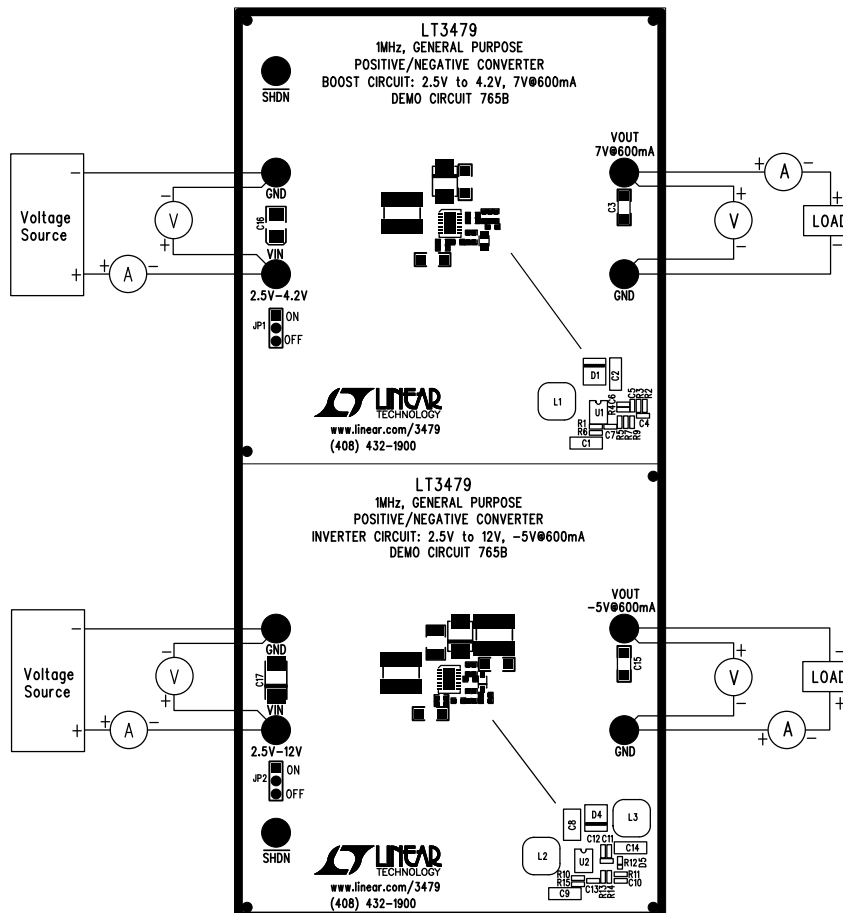

Figure 1. DC765B Proper Equipment Setup
Demonstration circuit 765B is easy to set up to evaluate the performance of the LT3479EDE. Refer to Figure 1 for proper measurement equipment setup and follow the procedure below:
- When measuring the input or output voltage ripple, care must be taken to avoid a long ground lead on the oscilloscope probe. Measure the input or output voltage ripple by touching the probe tip directly across the V_{IN} or V_{OUT} and GND terminals. See Figure 1 for proper scope probe technique.